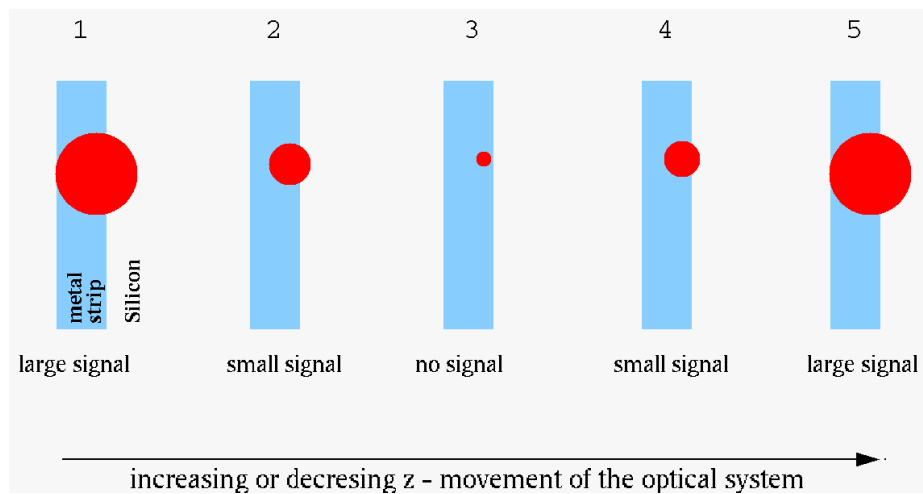

Figure 2: Focus finding procedure; movement of optical system causes changes of beam spot size (at fixed x/y position of the beam) and by that the signal.
5. Fix x (or y) to approximately position as indicated in Fig. 2. If the centre of spot hits the metal then moving in the direction of focus will reduce the signal as indicated. If the centre of the spot hits the silicon the curve will be reversed (max signal -> max. signal -> small signal). In general it is easier to observe disappearance of the signal.